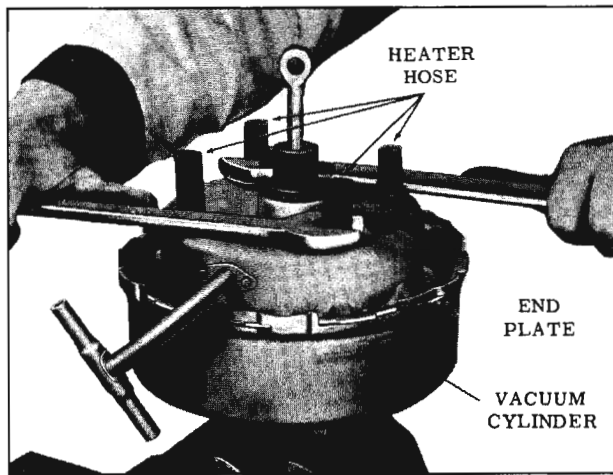

Fig. 7-25 Installing End Plate
8. Depress and rotate end plate clockwise until end plate is locked to vacuum cylinder. (Fig. 7-25)